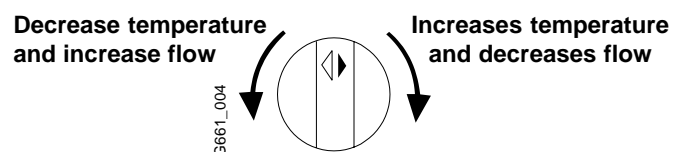

Fig. 9 - Principles of Operation
Turn off the manual lever on the gas supply line to the heater and set the ON/OFF switch to the OFF (0) position. See Fig 9.
The On/Off switch is located behind the flipdown cover plate on the front panel strip. See fig. 9.
The LED light (seen through the peephole in the coverplate on the front panel) flashes when the batteries are less than 1.2 volts. Replace batteries with D cell (1.5 volt) long life alkaline batteries as shown in fig. 9.